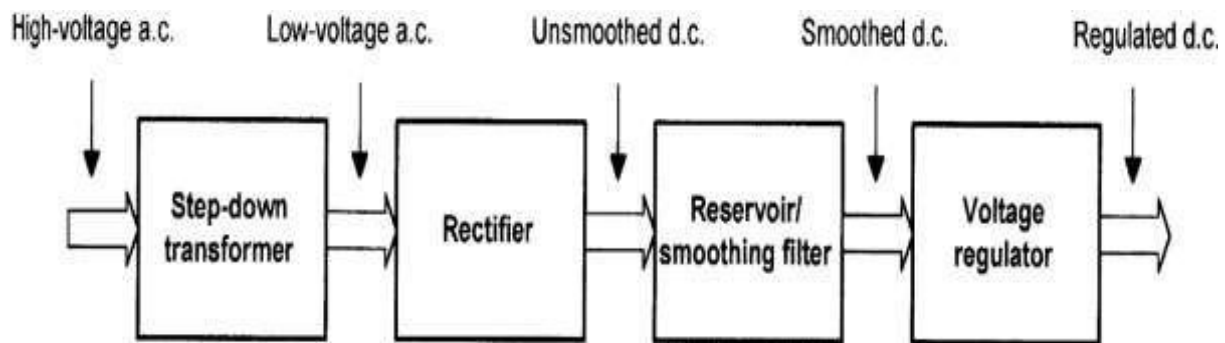

Figure 1.1 Block diagram of a D.C power supply
The block diagram of a D.C power supply is shown in Fig. 1.1.
- Fig. 1.2 shows the realization of the block diagram of a D.C power supply using the electronic components in Fig. 1.1.